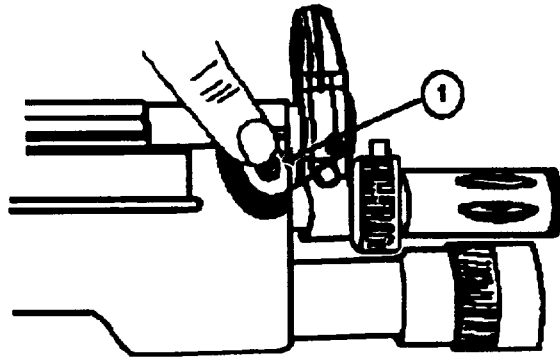

Figure 1-11. Removing Handguard Pin
f. Remove handguard locking pin (1), Figure 1-11, and remove handguard and tactical light assembly.
- b. Align the pin hole and install the handguard locking pin (1), Figure 1-11.